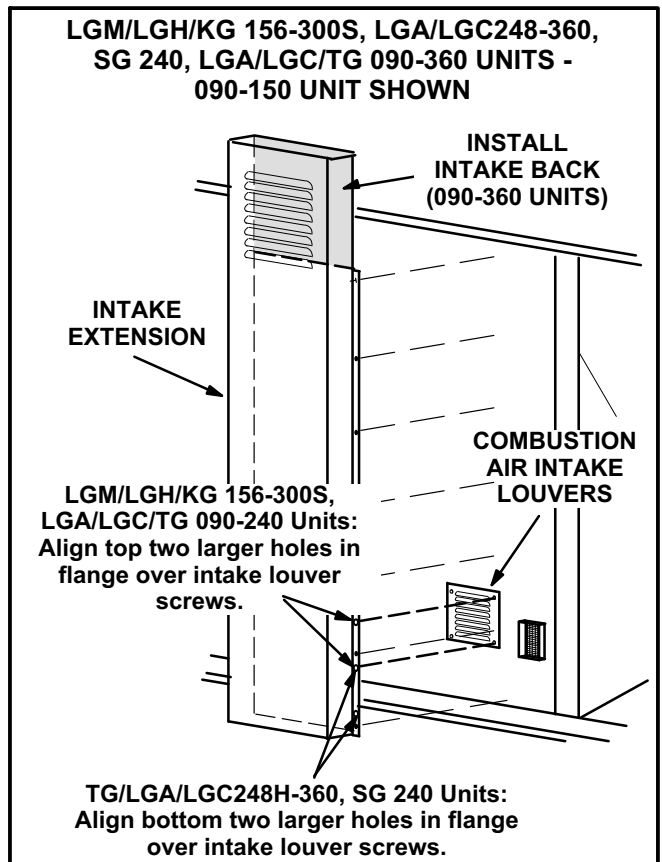

FIGURE 6
- 1- Install the intake back on the extension using #8 screws provided. See figure 6.
- 2- Locate the three larger holes in the right extension flange. See figure 6.